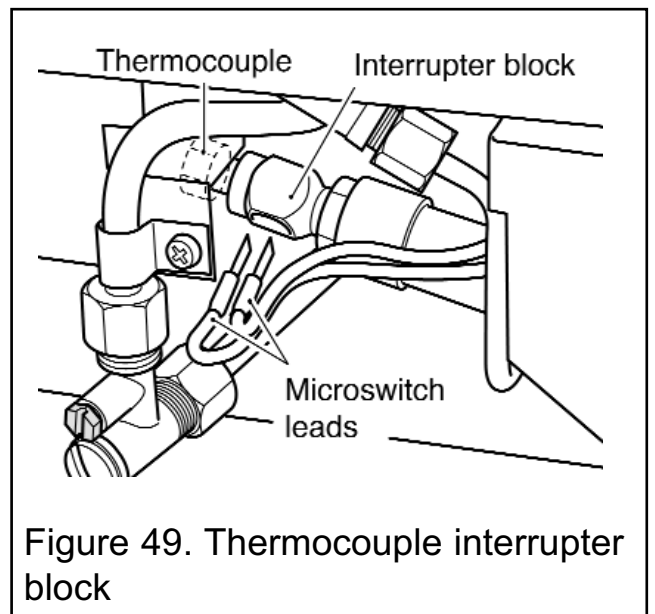

Figure 49. Thermocouple interrupter block
2. Loosen the thermocouple nut to free the microswitch leads and pull the leads clear of the thermocouple interrupter block (See figure 49).
(See figure 49).